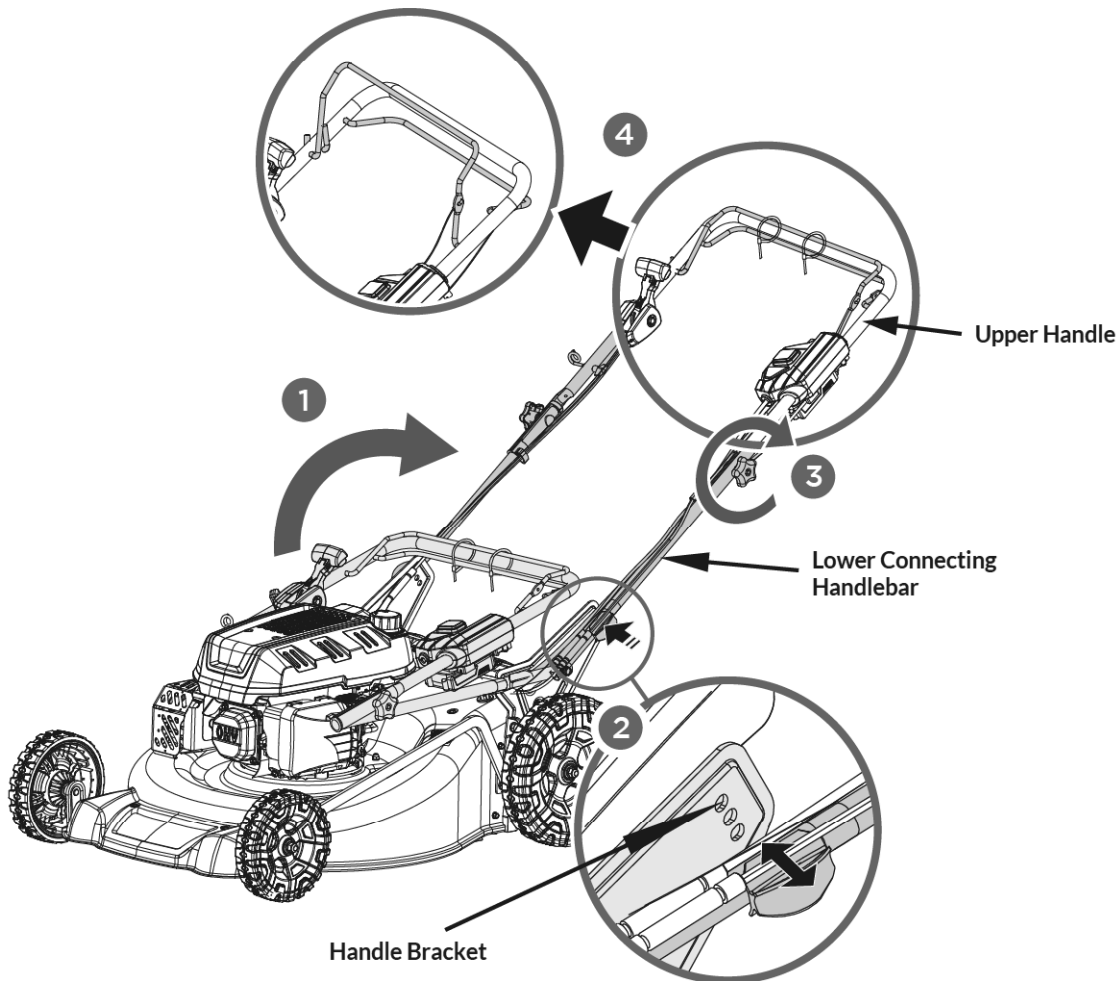

Figure 2
1. Slowly move the folded handlebars back to the working position. (See **Figure 2, illustration 1**)
2. Unlocking the knobs, attached the short studs into any one of the three holes in the handle bracket. (See **Figure 2, illustration 2**)
3. Tighten the wing knobs and bolts that connected the upper handle and the lower connecting handlebars. (See **Figure 2, illustration 3**)
4. Cut the cable tie to release the engine start/stop control lever and the drive control lever. (See **Figure 2, illustration 4**)